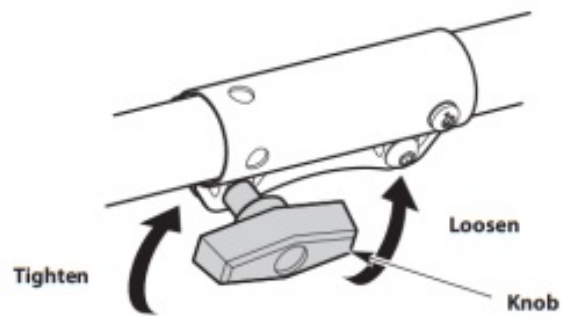

Fig. 1
3. Turn the knob counterclockwise to loosen the coupler (Fig. 1).
6. Turn the knob clockwise to tighten the coupler (Fig. 1).
2. Turn the knob counterclockwise to loosen the coupler (Fig. 1).